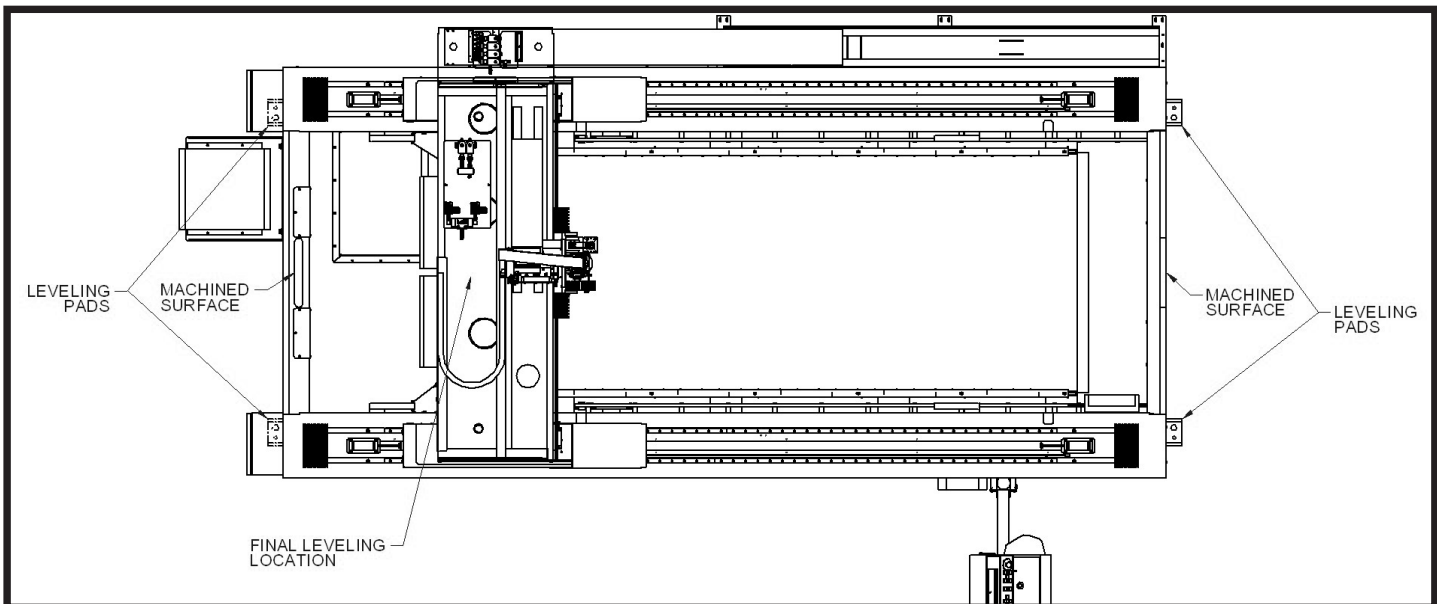

Figure 2-3 Main Frame Leveling Adjustments
Main frame leveling adjustments are made using jackscrews provided at the mounting pads. Figure 2-3 shows the mounting pads. The machine foot mounting pads are located on the outside surface of the main frame in the four corners.
1. To check cross-leveling, place a precision level on machined pads on each end of the main frame. For preliminary leveling, a level with .004 inch/ft. precision is sufficient (0.33 mm per meter). See Figures 2-3 and 2-4. Lift machine with jackscrews and shim under mounting feet (shims are provided).